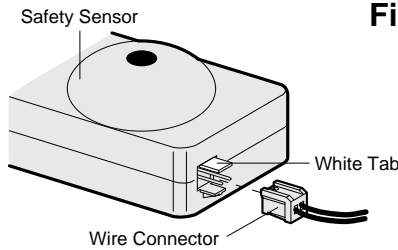

Figure 7
- Insert the wire connector into each sensor and push until you hear a click, Figure 7. The white tab on the sensor should be flush with the back of the connector.